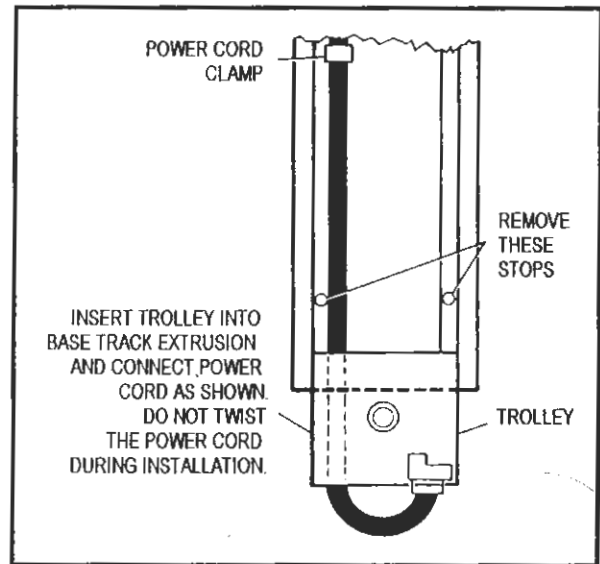

FIGURE 6. INSERTING TROLLEY AND CONNECTING POWER CORD
d. Insert trolley (Item 4, Figure 1) onto the track of the base track extrusion with the power hook-up as shown in Figure 6. Connect the trolley wire harness to the power cord, taking care not to twist the power cord.